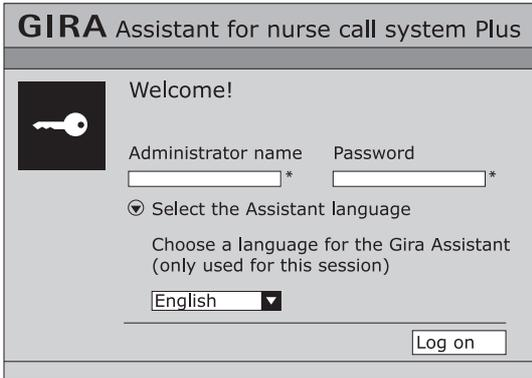

Figure 4.2: Log-in screen in the Gira configuration assistant: Entering the user name and password, language selection
The start screen of the configuration assistant opens (see Figure 4.2).
- After entering the user name and password and after language selection (see Figure 4.2 and "User names and passwords" on page 62) click on "Log on".